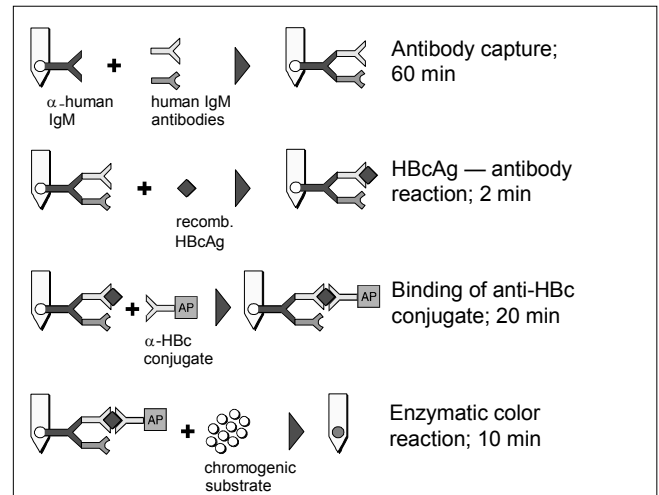

Figure 1. Principle of the Test
At the outset of the test, serum or plasma specimens are prediluted 1:50 and added to the diluent in the wells of row A of the Developing Plate. The Comb is then inserted in the wells of row A. IgM will be captured by the anti-IgM antibodies on the lower spots on the teeth of the Comb (Figure 1). In row B, anti-HBc IgM captured on the lower spots of the teeth, and the rabbit anti-HBc on the upper spots (Internal Control), will react with HBcAg. In row C the bound HBcAg will react with rabbit anti-HBc antibody labeled with alkaline phosphatase (AP). In the next two rows, unbound components are removed by washing. In row F, the bound alkaline phosphatase will react with chromogenic components. The results are visible as gray-blue spots on the surface of the teeth of the Comb.